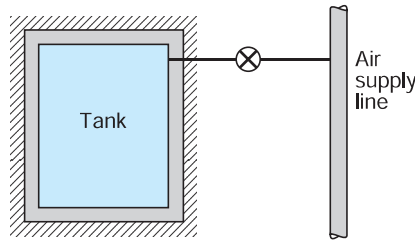

FIGURE P6.119
- 6.119** A 25-L tank, shown in Fig. P6.119, that is initially evacuated is connected by a valve to an air supply line flowing air at 20°C , 800 kPa. The valve is opened, and air flows into the tank until the pressure reaches 600 kPa. Determine the final temperature and mass inside the tank, assuming the process is